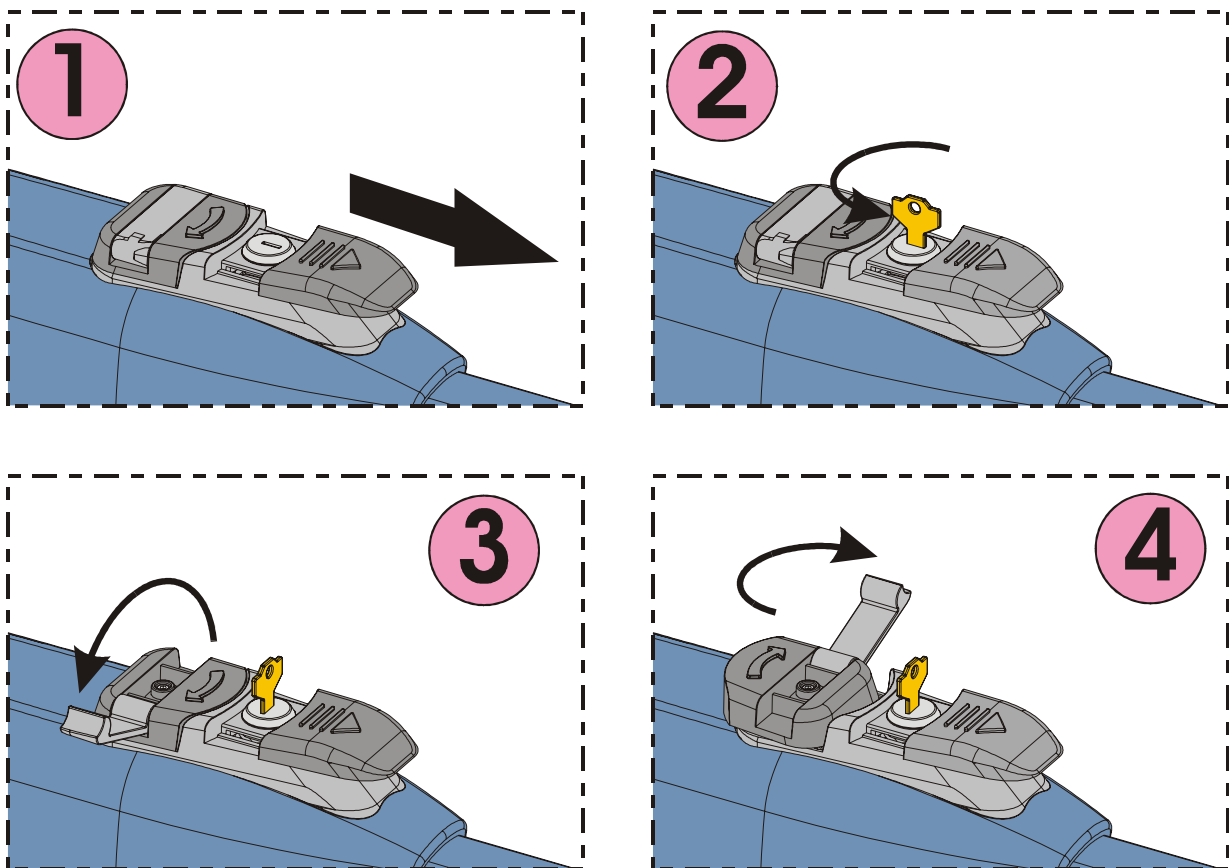

Fig. 22
- 2) Slide the protective cap, Fig.22/1.
- 3) Insert the key and turn it 90°, Fig.22/2.
- 4) Lift the control lever, Fig.22/3.
- 5) To release the operator turn 180° the control lever to the direction indicated by the arrow on the release system, Fig.22/4.